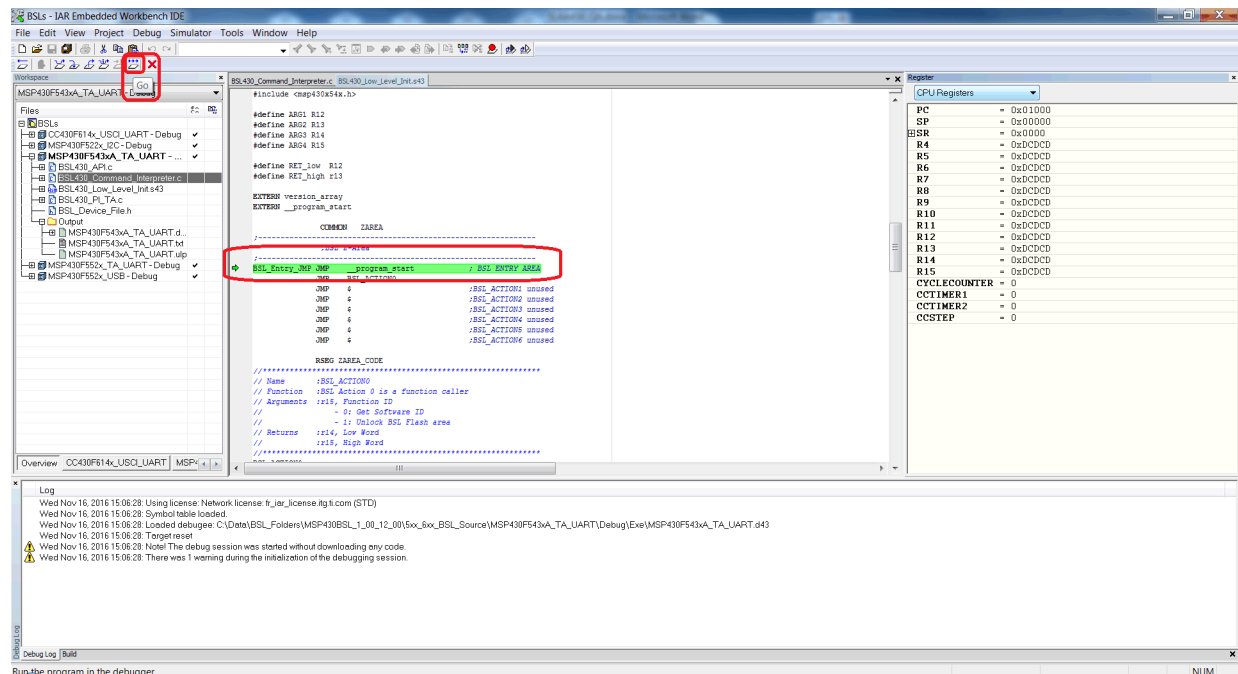

Figure 12. Run the Debug Session
- e. Run the BSL in the debugger. The program starts on the BSL entry function (see Figure 12).